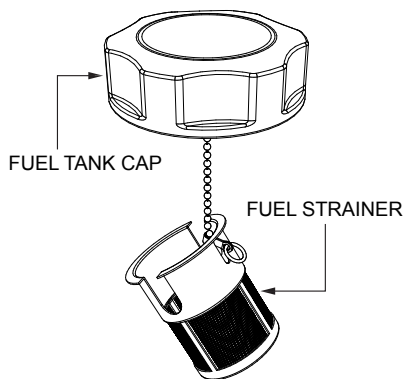

Figure 61. Fuel Strainer
3. Remove, inspect, and clean the fuel strainer (Figure 61) with solvent.